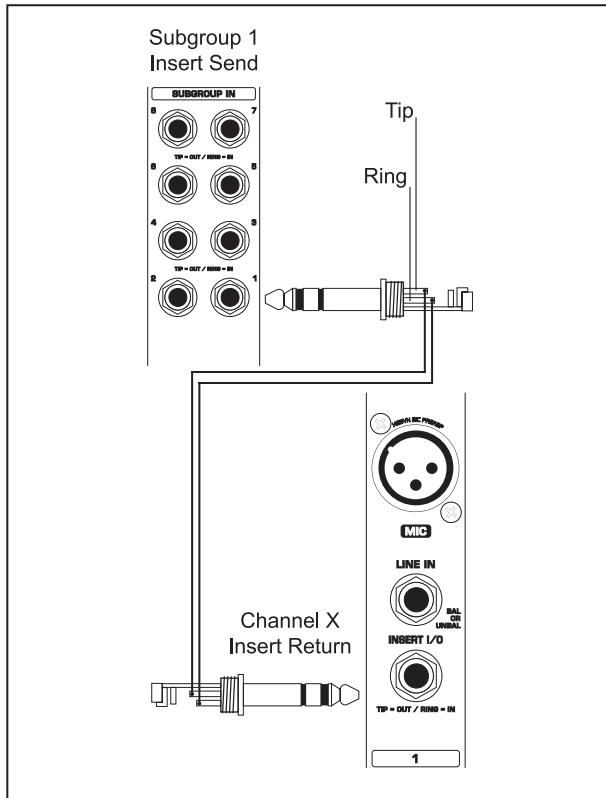

Fig. 5.3: Making use of the channel EQ for shaping subgroup-signal by applying inserts
- ◆ SX3282 insert points are, of course, simultaneously inputs and outputs. For goodness sake, get them onto a patchbay, where they can appear as independent sockets, and do away with all these fiddly Y-leads that always seem to be the first to get knotted in the flightcase (see section 9 “Patchbay”). Now it is possible to do the incredibly useful patch shown in fig. 5.3 without having to make up what would amount to a ring-to-tip, tip-to-ring stereo patch lead.